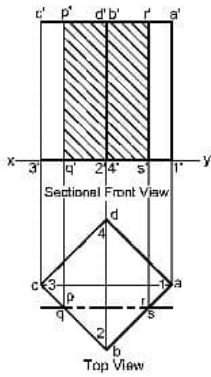

Fig. 5.93
- (1) Draw T.V. first. In T.V. all edges of base of prism are equally inclined to V.P. Project F.V. from it.
- (2) Since section plane is parallel to V.P. as shown in Fig. 5.93, in the top view its H.T. will be a straight line parallel to xy, 10 mm from axis.
- (3) The section plane cuts the edges ab, bc, 1-2 and 2-3 in r, s and p, q. These are key points.
- (4) Project these key points in the front view on the corresponding edges. Join points to get sectional F.V.
- (5) pqrs is the true shape of section, since the cutting plane is parallel to V.P.
- (6) Show the views by dark but thin lines. Cut portion is shown by faint lines. Draw section lines at  $45^\circ$  to horizontal in the rectangle p' q' r' s' for section.